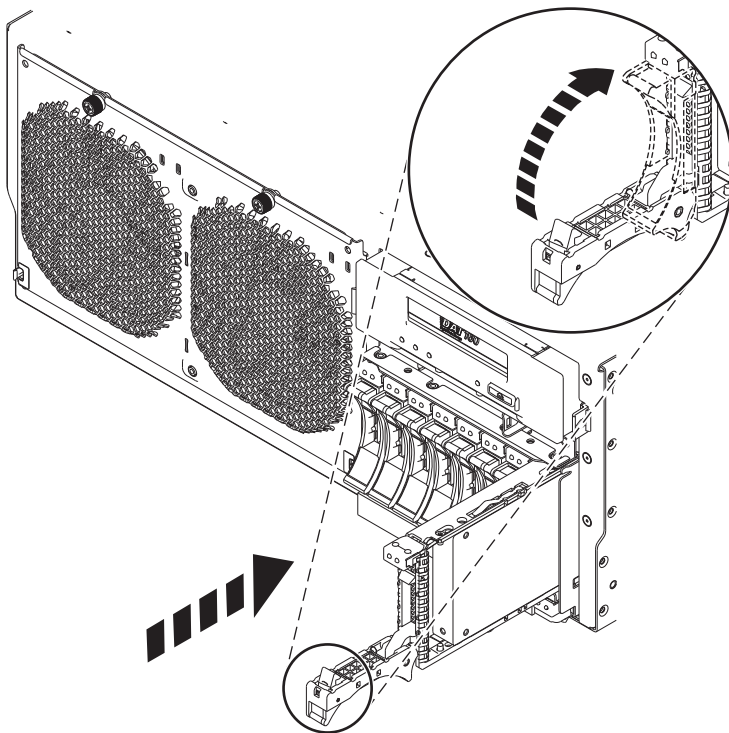

Figure 34. Installing a disk drive in the 8202-E4B, 8202-E4C, 8205-E6B, or 8205-E6C
12. When the service indicator starts flashing, slide the disk drive all the way into the system or expansion unit, and push the disk drive handle (A) in until it locks, as shown in Figure 34.